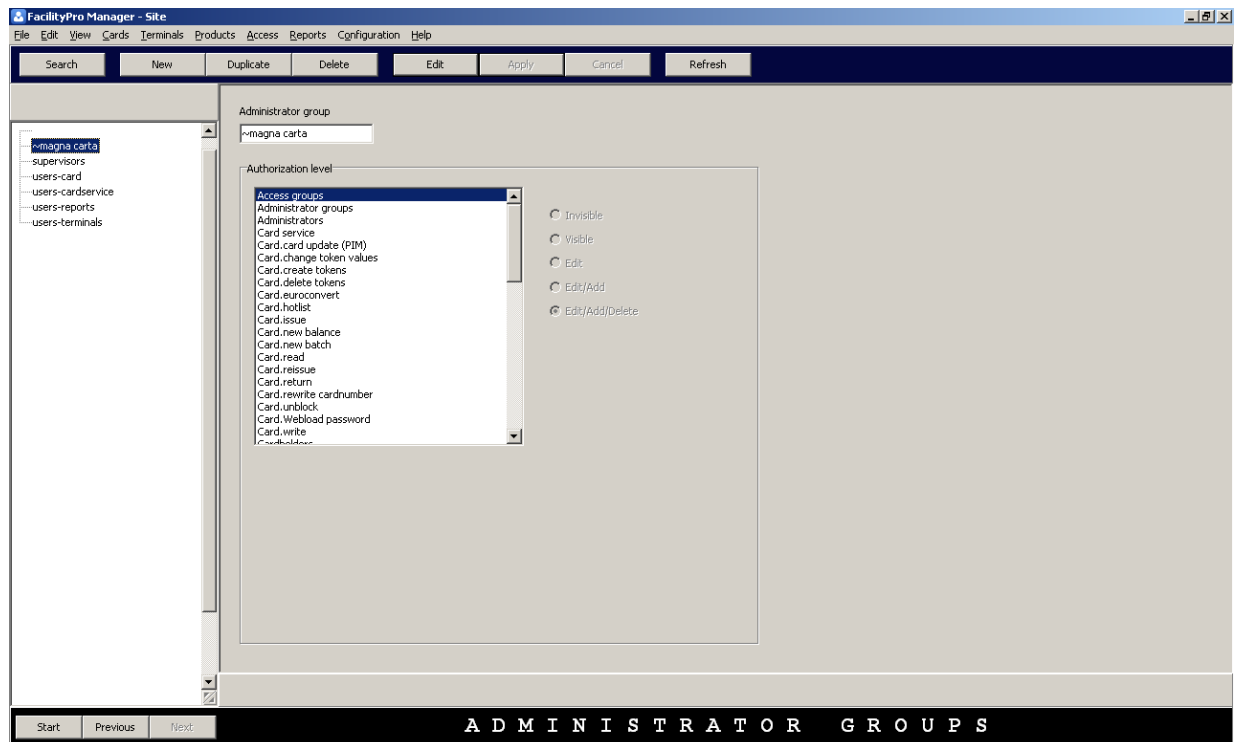

Figure 8-12 The administrator groups data screen
2. Choose **Administrator groups**. You will see the administrator groups data screen (Figure 8-12).